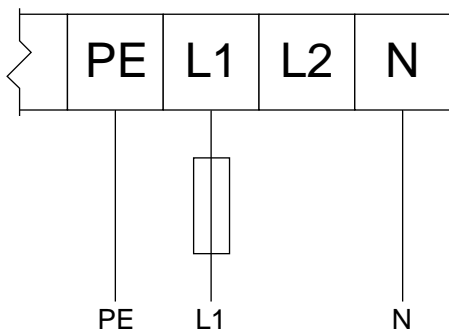

Figure 8 120 Vac 1 Phase Input/240 Vac 3 Phase Output
6. Connect the power supply wires to the power terminals in the VFD box. See Table 3 and Figs. 8–12, as applicable for your system.
| 16K905 | 0.5 | 120 Vac, 1 phase | 90–132 Vac | 240 Vac, 3 phase | Fig. 8 |
| 16K907 | 1.0 | 120 Vac, 1 phase | 90–132 Vac | 240 Vac, 3 phase | Fig. 8 |
| 16K909 | 1.5 | 120 Vac, 1 phase | 90–132 Vac | 240 Vac, 3 phase | Fig. 8 |